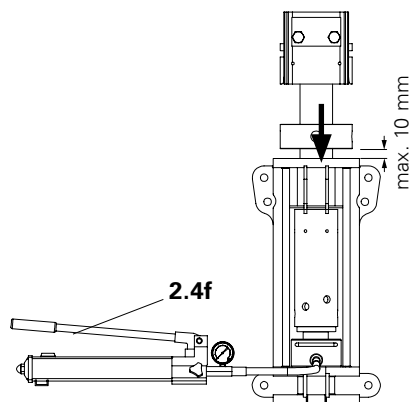

Fig. 22
5. Raise hydraulic cylinder max. 10 mm with the pump handle (2.4f). (Fig. 22) → Raise Head Spindle and spindle sleeve.